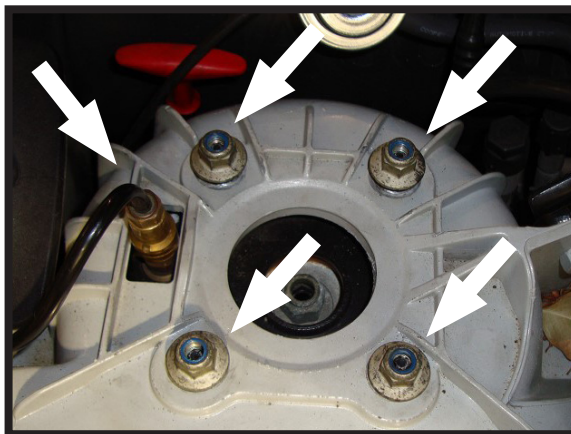

FIGURE 5
7. DISCONNECT THE AIR LINE FROM THE CHECK VALVE AND THE FOUR (4) SHOCK MOUNTING NUTS. TUCK UNUSED AIRLINE INTO SUITABLE LOCATION (AWAY FROM MOVING PARTS AND SOURCES OF HEAT). (FIGURE 5)